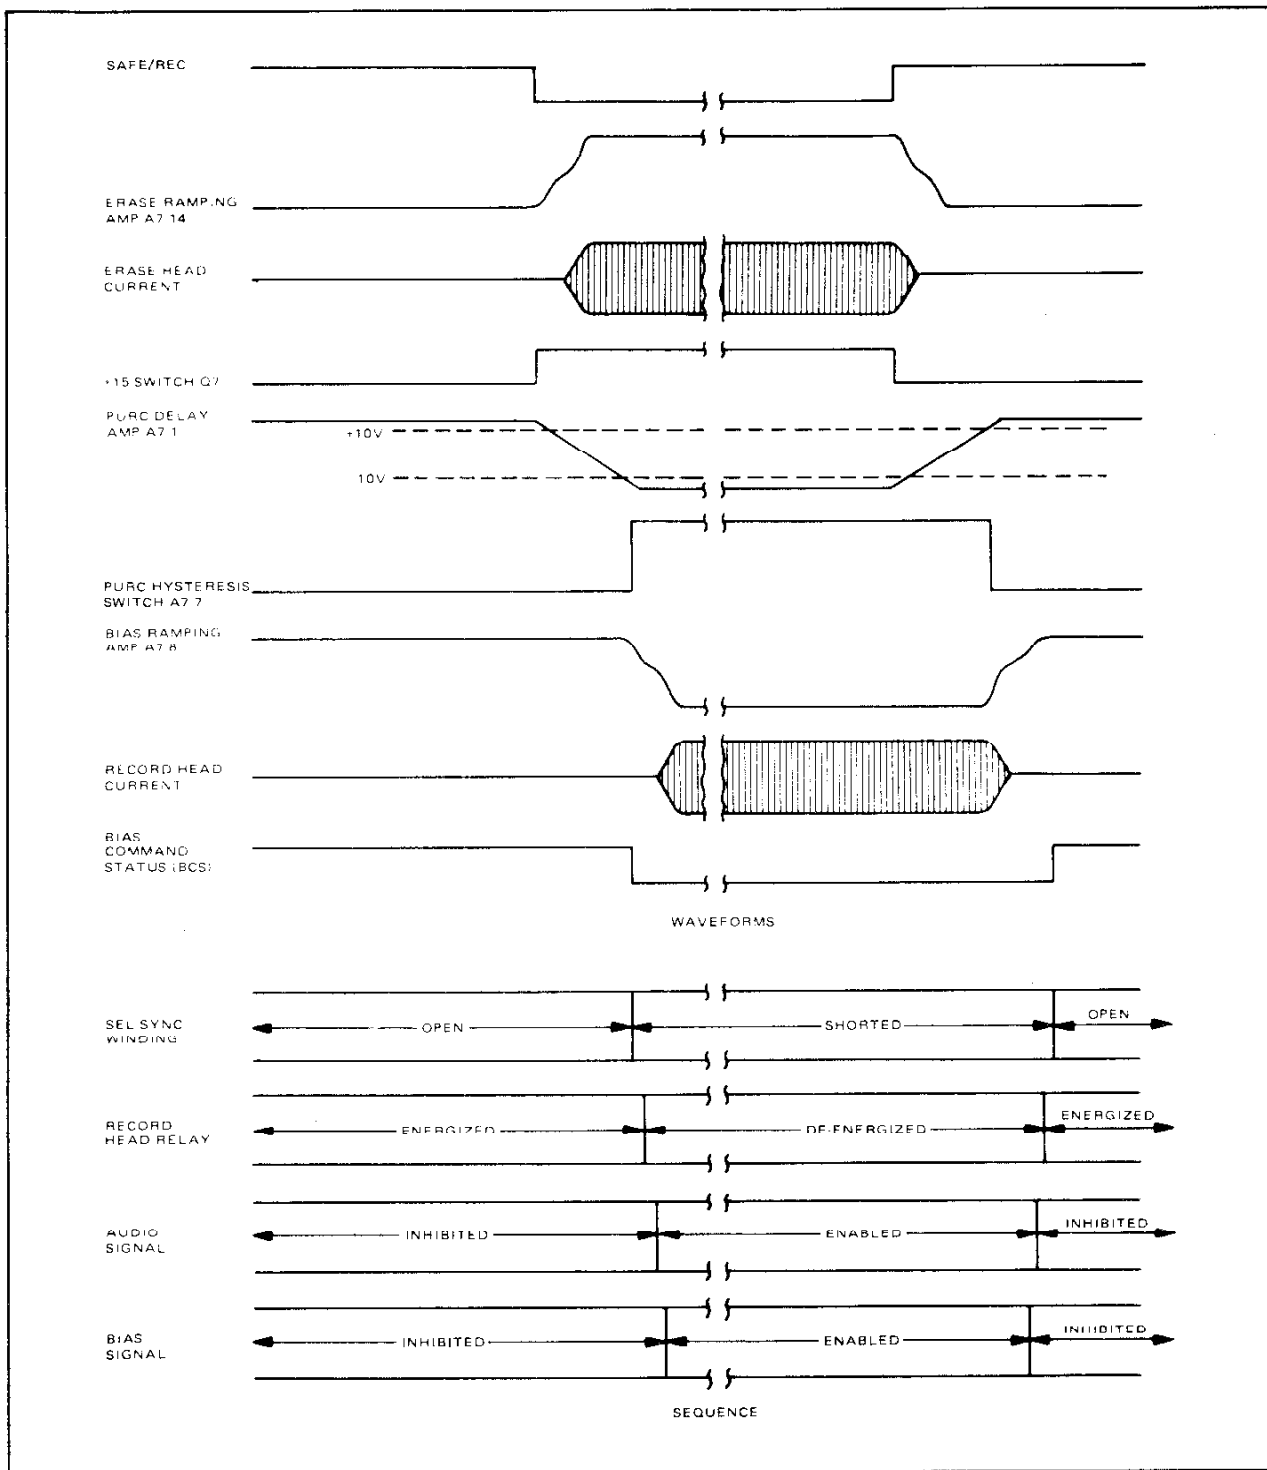

Figure 4-19. Record Ramping and PURC Delay Timing
**4-73. Record Ramping and PURC Logic.** The record ramping and pick-up record capability (PURC) logic generates the appropriate ramping signals for the controlled ramping up and down of the bias to the record circuits and for timing of the PURC delays. All control sequences are initiated when the status of the channel SAFE/REC signal, generated by the audio control PWA, changes. Figure 4-19 is a timing diagram of the ramping and PURC delay signals.